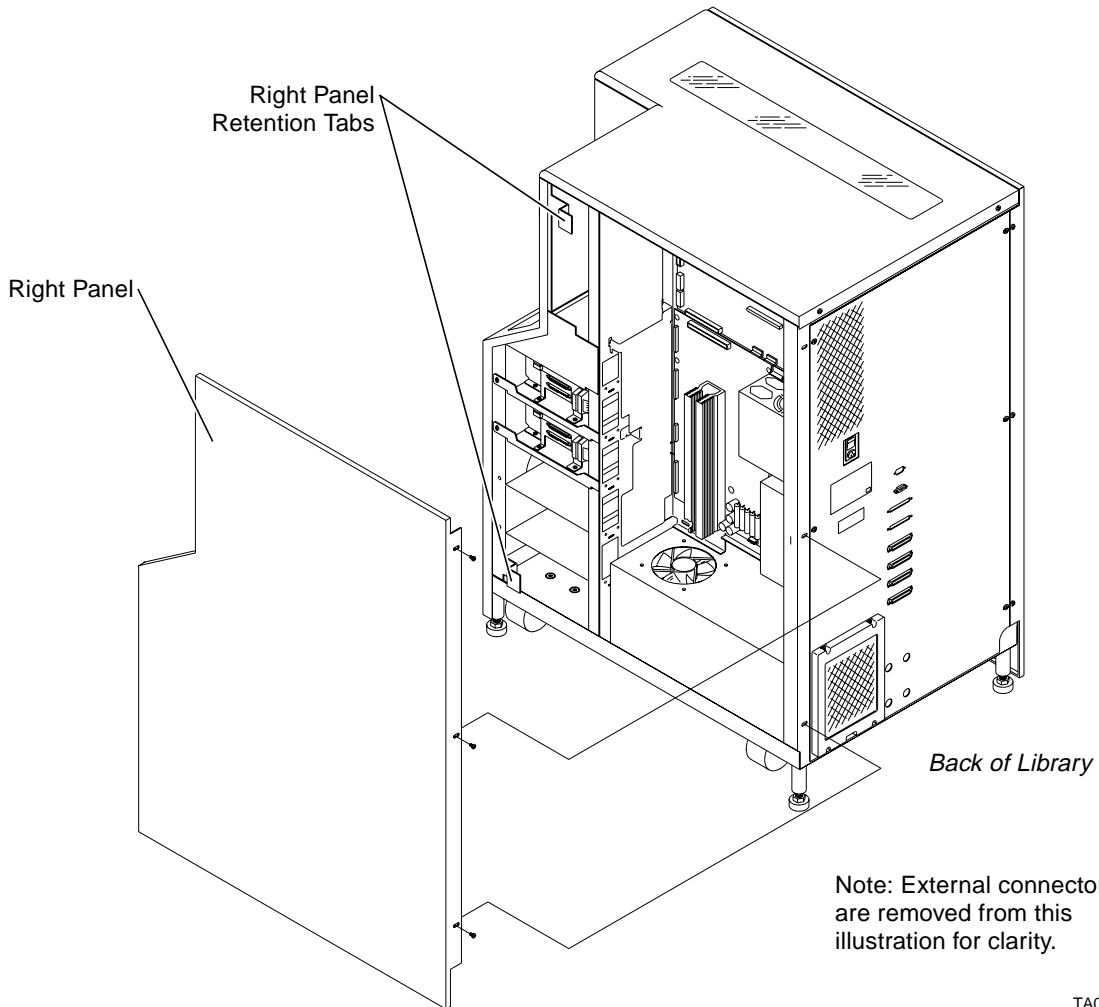

FIGURE 3 Removing the Right Panel
1. Using a Phillips screwdriver, remove the three screws that secure the right panel to the back of the library frame (FIGURE 3).